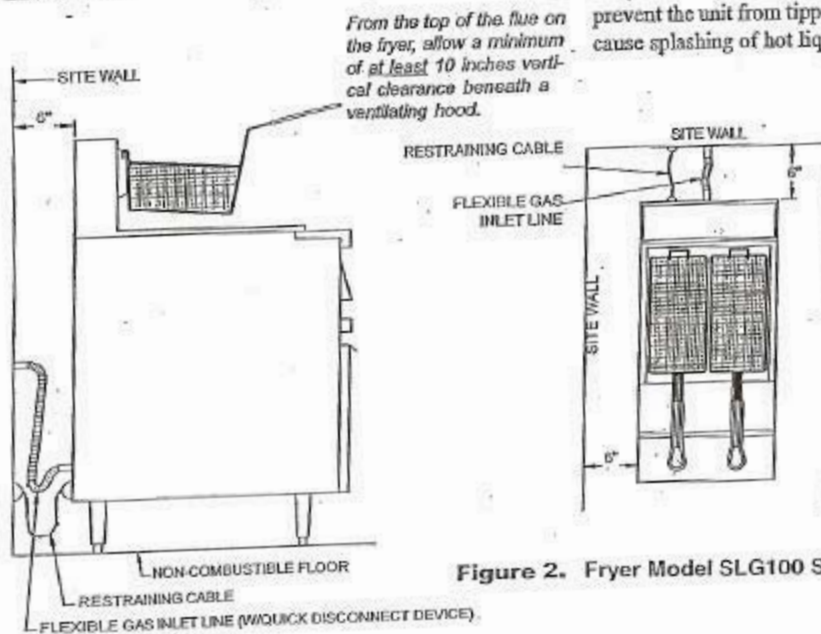

Figure 2. Fryer Model SLG100 Site Installation Requirements
e. Install this fryer on a non-combustible floor with its back and sides at least 6" away from any combustible wall, as shown in Figure 2.
1. Install one restraining device connector securely into the structure wall directly behind the fryer's desired location (Figure 2).